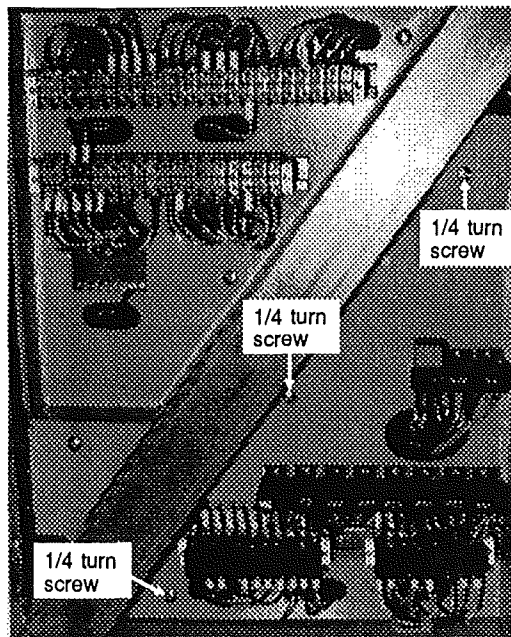

FIG. 7 - Articulation junction box
The articulation junction box is located at the beginning of rear section on the right side of vehicle. To gain access, open the R.H. side rear section baggage compartment door located next to the articulation bellow, and unscrew the 1/4 turn screws (3) retaining panel. There are two hinged panels consisting of cubic relays, diodes, junction terminals, as well as breakers (see fig. 7). All these components control, energize, and protect the rear section accessories. Junction terminals are located behind these panels. To gain access, unscrew the turn screws (3) on each panel, and open the panels.